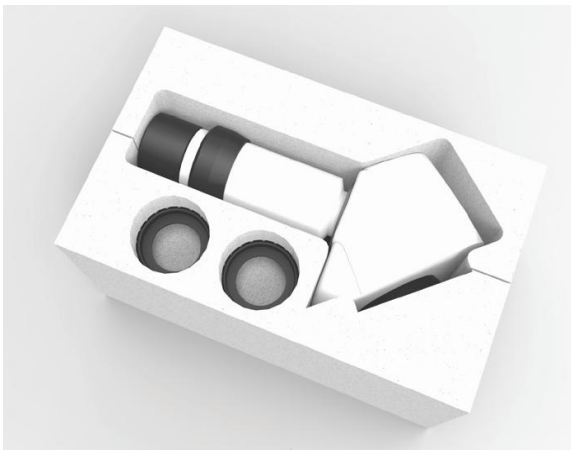

Fig. 6-7 – Binocular package
- Take the binocular package (after removing it from the welding chamber) (Fig. 6-7) and extract the binocular from the package.
In the binocular box (Fig. 6-7) there are also two blinkers, which can be attached to the eyepieces, in case the user wears prescription glasses.